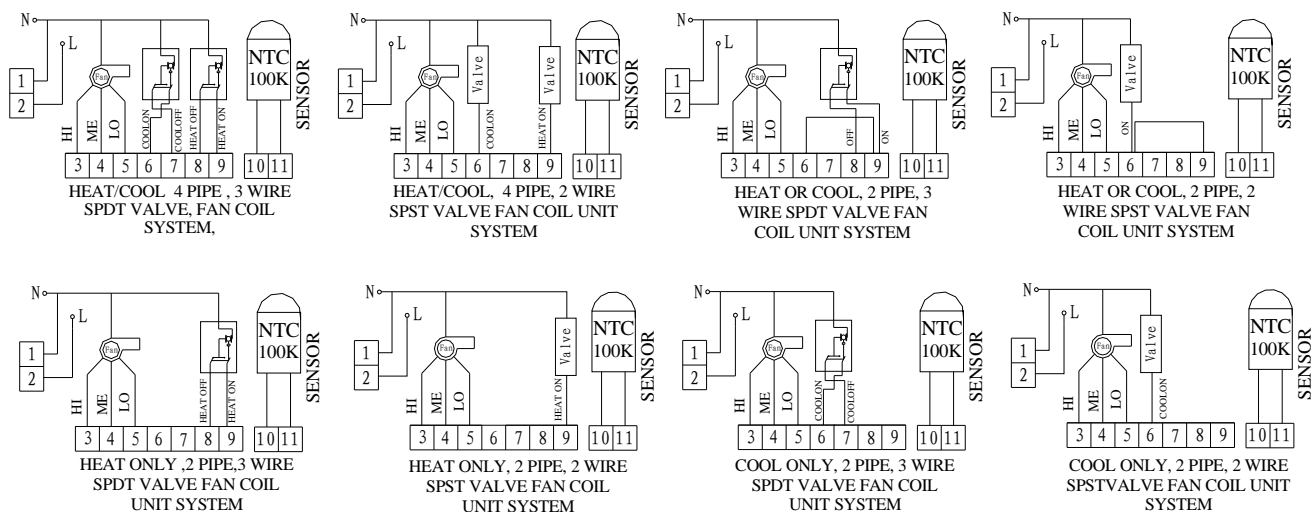

Figure 4
2. Connect wires beneath terminal screws on power supply module using appropriate wiring schematic. See figure 4
4. Replace control panel on the power base and fix power base and control panel by removed two screws in item 1